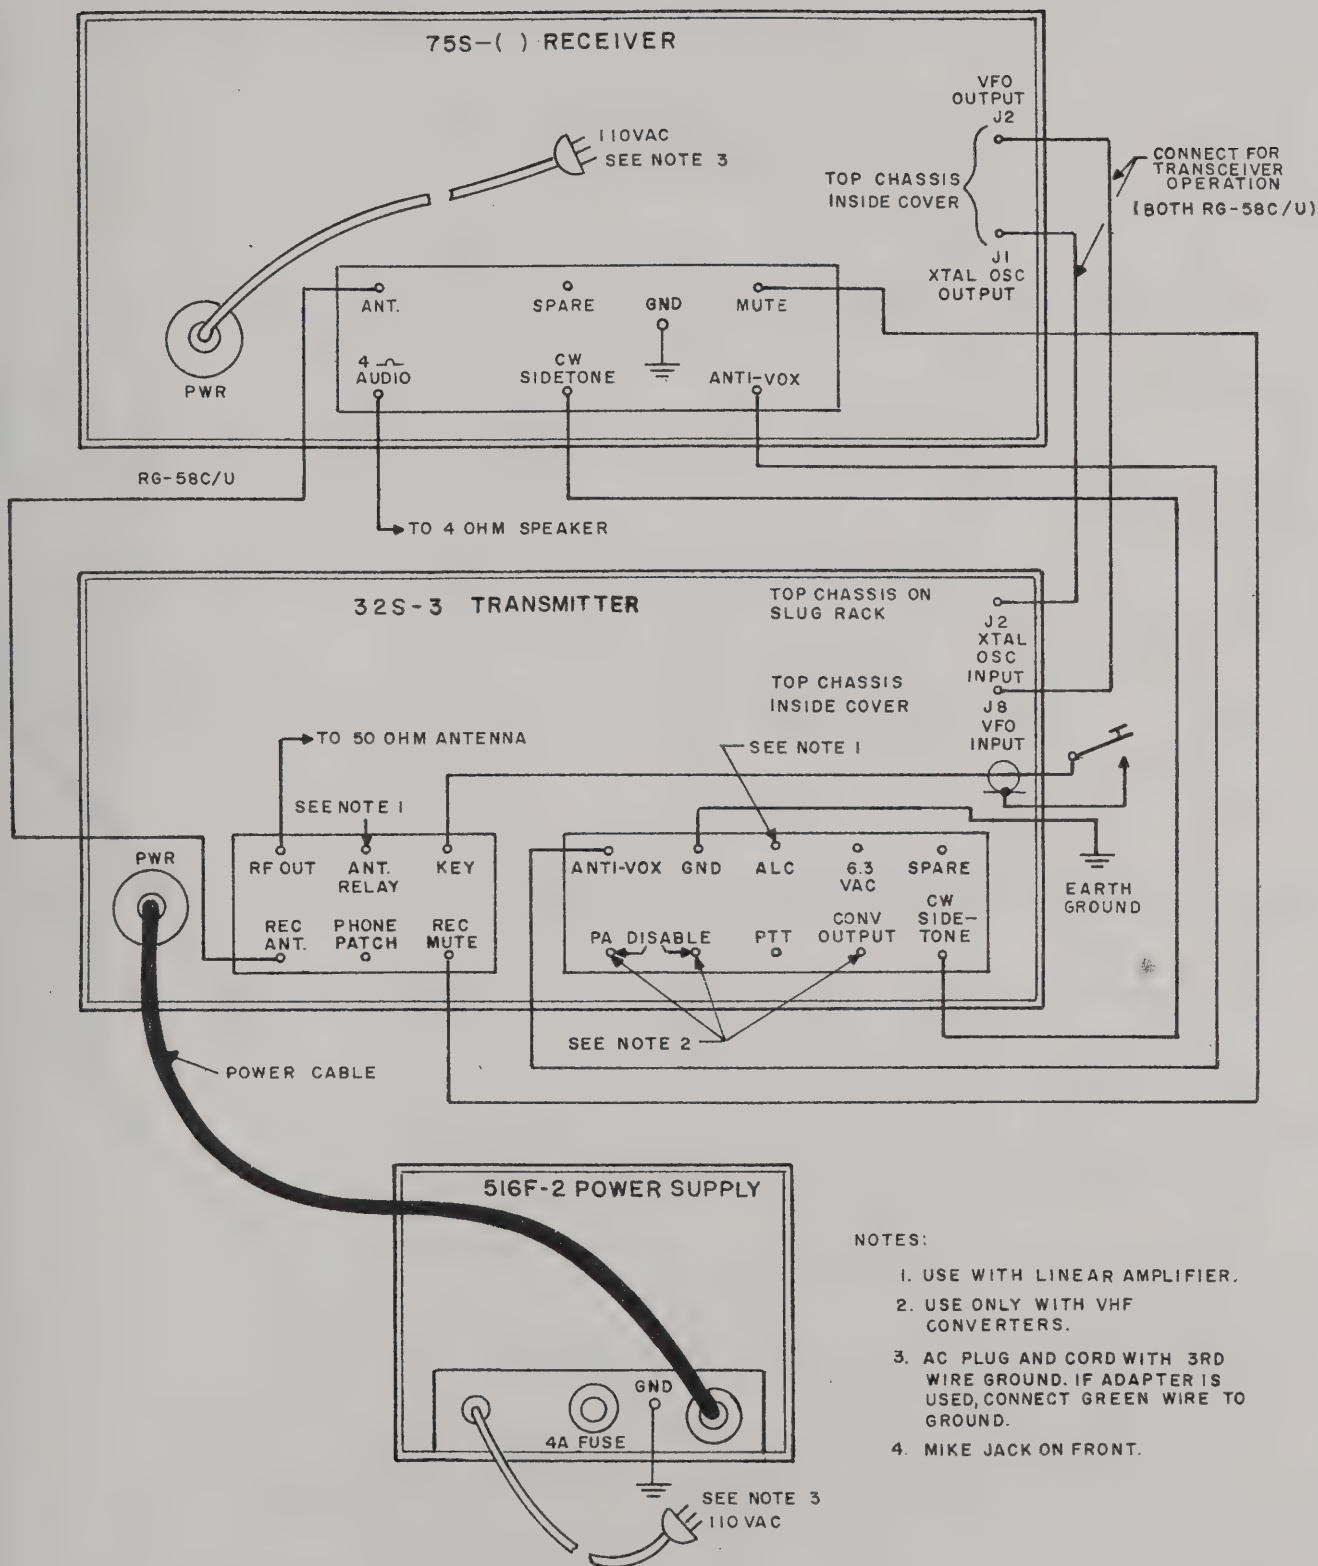

Figure 1-2. Receiver-Transmitter Interconnections
If the 32S-3 is connected with a 75S-() Receiver, as shown in figure 1-2, and it is desired to zero beat the 32S-3 to a frequency tuned on the receiver, set CW CAL knob to 3 o'clock, and gently push in on the shaft in the center of the CW CAL knob (13) while rocking the tuning dial across the receiver frequency. A signal will be heard as the 32S-3 CW CAL signal passes across the receiver frequency. Zero beat this signal by manipulating the 32S-3 tuning dial. The level of the CW CAL signal is adjustable with the CW CAL knob. Maximum output is obtained with the control rotated fully clockwise.
The tone oscillator output is fed to SIDETONE jack J19 when the key is closed. The SIDETONE ADJUST is a screwdriver control located under the top cover on a standoff bracket to the right of the vfo. With the 75S-() and 32S-3 connected as shown in figure 1-2, and the 75S-() audio gain control set in the desired position for CW operation, key the 32S-3, and adjust the SIDETONE ADJUST control for the desired level at the receiver audio output.
a. Transmitter and receiver must be connected as shown in figure 1-2.
d. Set the zero set knob (3) on the 32S-3 so that the hairline indicates the same frequency as that of the receiver.
a. Connect the 32S-3 and 75S-() as shown in figure 1-2 or 1-3.